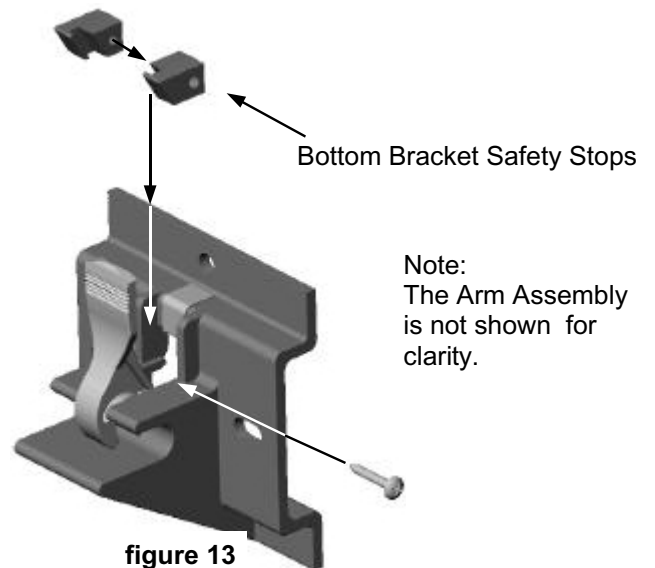

figure 13
**C.** Once installed the ONE-Touch arms must not be removed from the bottom brackets (NO CARPORT POSITION). To ensure the arms are not removed the quick install/release catch on the bottom brackets must be disabled by installing the Bottom Bracket Safety Stops (**figure 13**).